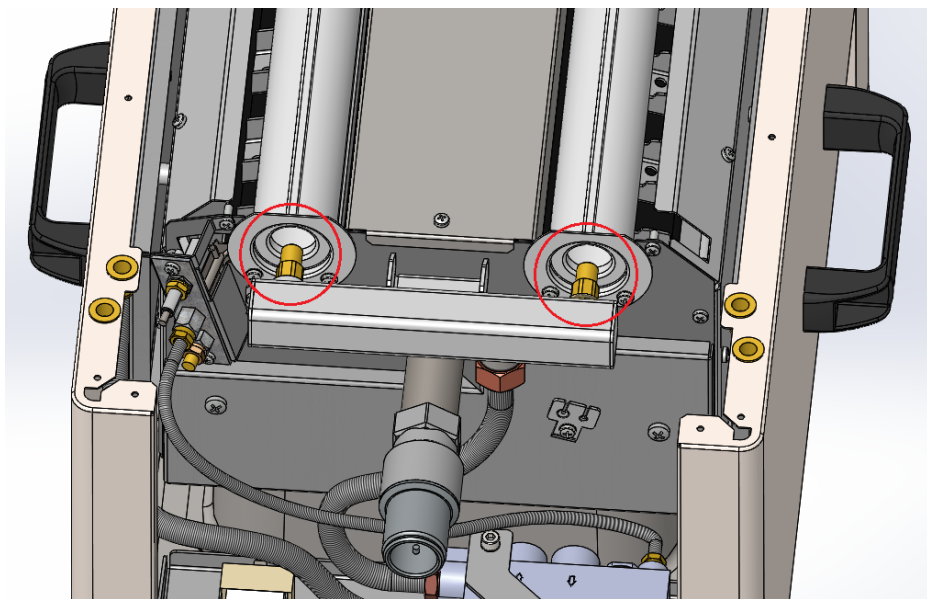

Fig. 1
- 2) With a wrench size 12, remove the nozzles of the main burners and replace them with nozzles according to the Table (Fig.1).